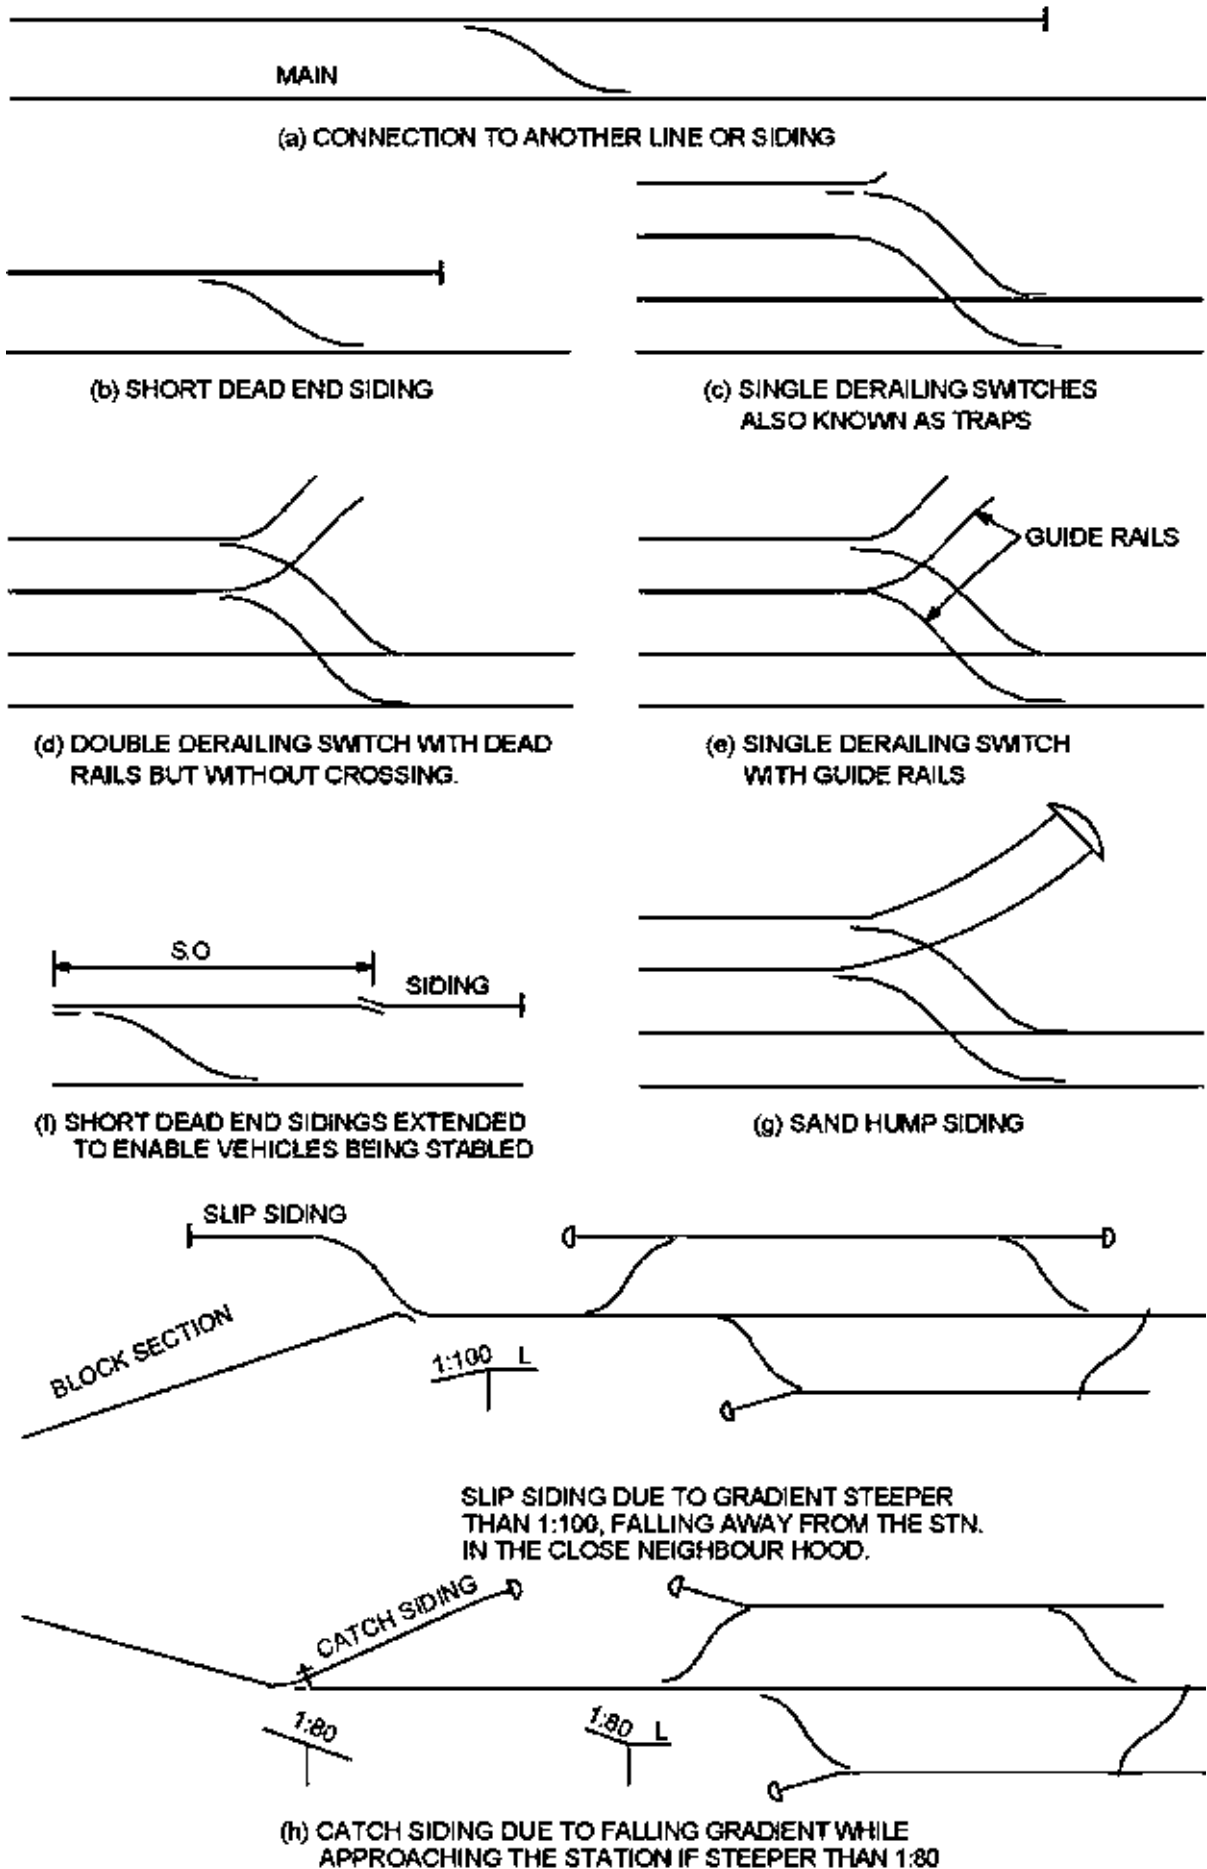

Fig. 11.3 METHODS OF ISOLATION
- (a) Connection to another line or siding {see figure 11.3 (a)}
- (b) The provision of short dead and sidings (this siding should not be long enough to permit vehicles being stabled thereon) {see figure 11.3 (b)}.
The provision of traps, viz., single or double derailing switches {see figure.11.3 c &d}. The use of scotch blocks and Haye's derails are obsolete but existing installations are permitted to remain. A scotch block is a triangular piece of metal placed on the running line and padlocked in that position. For movements over the block it is lowered in the off side of the rail. The action of the Scotch Block is not positive; cases of vehicles climbing the block and returning to the rail have indeed occurred. It is not possible to operate Scotch Block which can be connected to and worked from a lever frame and which if in good adjustment, can be depended upon to derail a vehicle. It is important that wherever Haye's derails are in use, they are lubricated periodically and maintained in good adjustment.
Traps, when located at signal overlaps should be closed before the corresponding signal is taken „OFF“ and similarly the points leading to short dead end sidings should be set against the sidings and for the cross over. In cases where the short dead end siding has to be extended for the purpose of stabling vehicles, the trap may be located at a distance of signal overlap (180 Mts or 120 Mts as the case may be) away from the points leading to the main or through line and it is ensured that before the signal for the admission of a train on to the running line is taken „OFF“, the trap is set and locked against vehicles occupying the further part of the siding {see fig. 11.3 (f)}.
- (c) **SAND HUMPS:** when all other methods of isolation cannot be used GR 3.40 permits the use of SAND HUMPS of approved design as a substitute for adequate distance. The length of siding should be at least one rail length and the formation is made-up for a short distance beyond the hump {See fig. 11.3 g)}.
- (d) **Slip Sidings and Catch Sidings:** The gradient within the station yard has to be low in order so that, the vehicles standing at the station do not start moving automatically due to the effect of gravity. On Indian Railways for all gauges the maximum gradient permitted is 1:400, whereas 1:1200 is usually recommended within the station yard. No station yard should be constructed on a gradient steeper than 1:260 except due to geographic condition where such a gradient cannot be avoided within the station yard, previous sanction of Railway Board through CRS has to be obtained and special arrangements like "Slip siding" has to be provided, where the gradient steeper than 1:100 falling away from the station in its close neighbourhood. This is to prevent vehicles escaping from the station and trying to enter into the next block section. Similar arrangements have also to be provided if the gradient steeper than 1:80 falling towards the station. This arrangement is known as 'catch siding'. It is to trap vehicles coming uncontrolled from the block section and trying to enter into the station section."Slip siding" and 'catch siding' points must be interlocked with the Block instruments, and such sidings should not be used for shunting or stabling purposes {see fig. 11.3 h)}.
The rules recognise the use of a short sand hump siding (also known as snag dead end) (see figure 11.3.g) in lieu the distance specified for the signal overlap. The points of the sand hump siding when set for the sand hump would also serve as a good method of isolating the adjacent connected line. Such sidings are more expensive, in terms of cost and required periodic maintenance as compared to trap point, therefore, sand hump sidings are used only when required for simultaneous reception purposes.